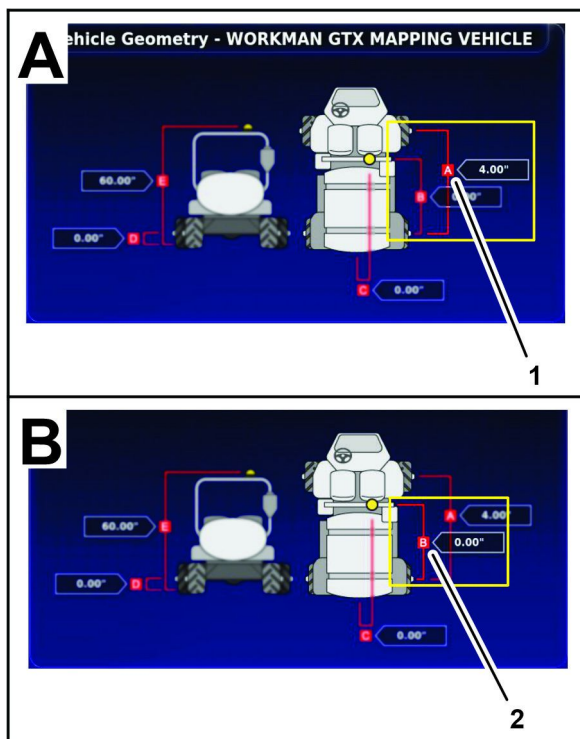

Figure 181
1. On the machine used for mapping field boundaries, measure the distance between the front and rear axle centerlines (Figure 181), and record your measurement in the vehicle geometry form that follows.
2. Measure the distance between the rear axle centerline and the center of the satellite receiver (Figure 181), and record your measurement in the geometry form.